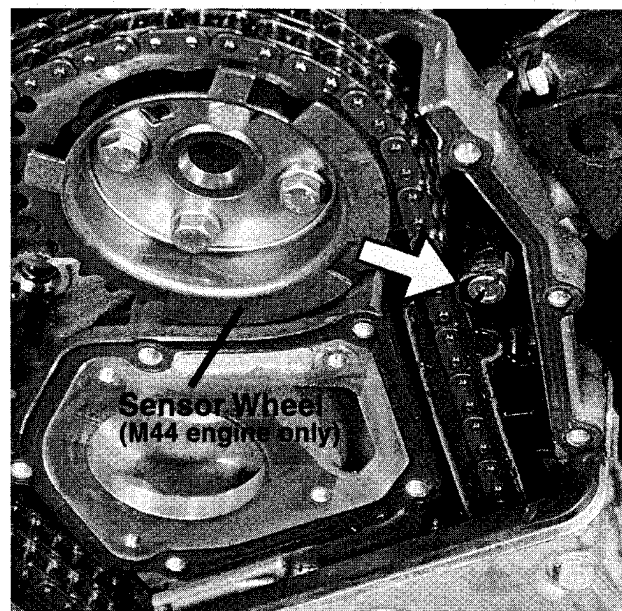

Fig. 14. Chain guide and guide adjusting sleeve (arrow). Allen-head retaining screw has been removed. Use slotted screwdriver to loosen adjusting sleeve.
10. Turn left chain guide adjusting sleeve in until it just contacts the cylinder head (See Fig. 14.). Insert chain guide retaining screw and tighten.
30. Remove upper bolt from left chain guide. Loosen chain guide adjusting sleeve approximately two turns. See Fig. 14.